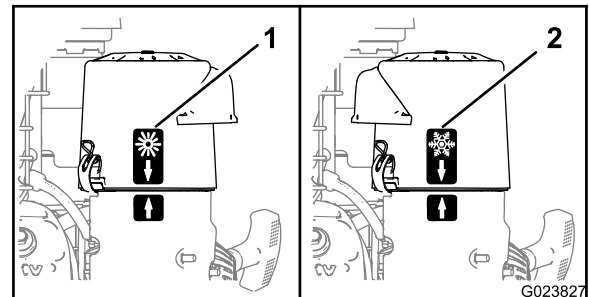

Figure 26
- When operating in a **cold ambient air condition** (cold air temperature and humidity)—position the air-cleaner cover with snowflake decal facing out (Figure 26).
- When operating in a **normal ambient air condition**—position the air-cleaner cover with sun decal facing out (Figure 26).